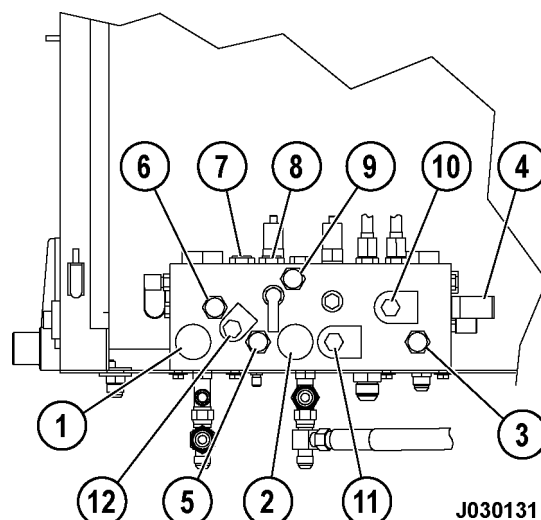
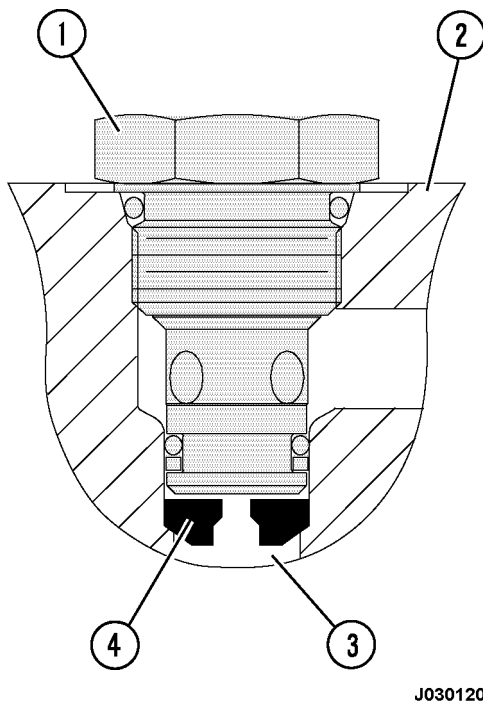

FIGURE 3-12. BRAKE MANIFOLD
FIGURE 3-13. ORIFICE INSTALLATION
2. Place the directional control lever in PARK and turn the rest switch ON. Turn the key switch OFF to shut down the engine and allow 90 seconds for the steering system accumulators to bleed down. Open bleed down valves (1) and (2, Figure 3-12) to bleed down the brake accumulators.
NOTE: Check valve (3, Figure 3-12) and reducing valve (4) both have an orifice disc located below them. The two orifices are different sizes. Therefore, it is very important to properly match each orifice with the correct installation location.
3. Before installing check valve (3, Figure 3-12) or reducing valve (4), refer to Figure 3-13 for proper orifice disc installation. The orifice discs must be installed in the direction shown for proper operation.
1. Turn accumulator bleed down valves (1) and (2, Figure 3-12) counterclockwise to open the valves. Left valve (1) will bleed the rear brake circuit and right valve (2) will bleed the front brake circuit accumulator.